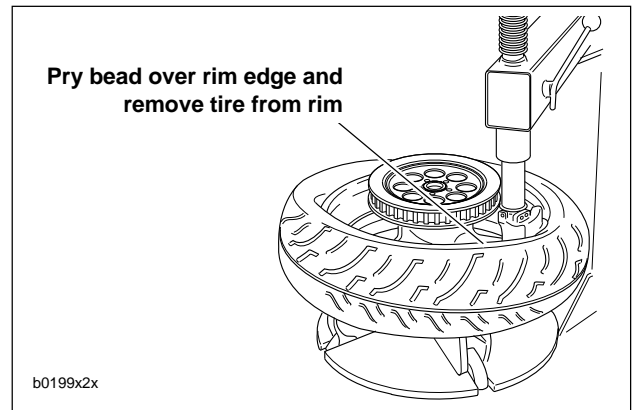

Figure 2-27. Starting Tire Off Rim
5. See Figure 2-27. Push lower bead into rim well on one side and insert tire tool underneath bead from opposite side. Pry bead over rim edge. Remove tire from rim.